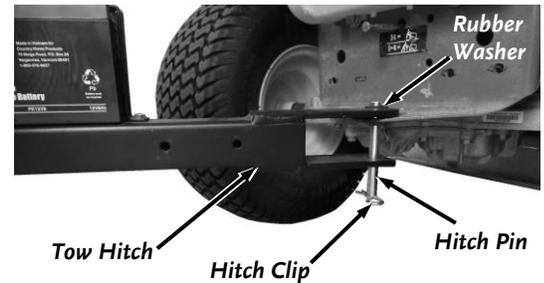

Figure 76
1. Make sure you firmly attach the DR LEAF and LAWN VACUUM Hitch to your Lawn Tractor using the Hitch Pin and Hitch Clip (**Figure 76**).